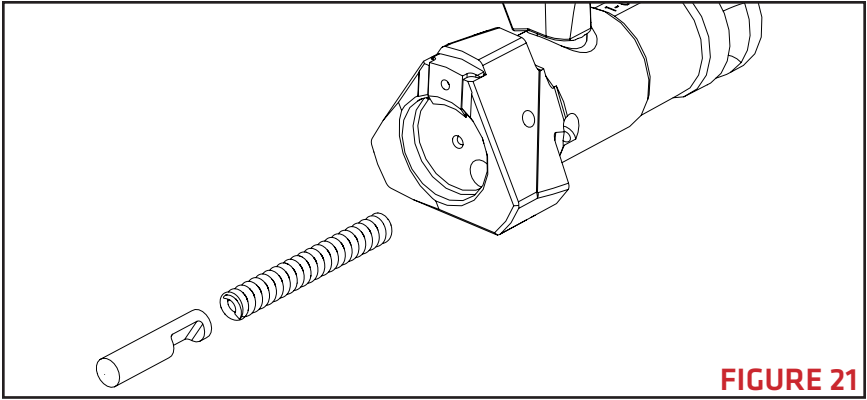

FIGURE 21
2. Hold the bolt face firmly against a flat work surface and slowly remove the 3/32 punch from the ejector pin hole. The ejector and ejector spring will escape from the bolt after the punch is retracted from the ejector pin hole. Lift the bolt from the work surface and remove the ejector and ejector spring (**FIGURE 21**).
3. To install the ejector, ensure the extractor is installed and insert the ejector spring and ejector into the bolt. Orient the ejector so that the ejector's pin slot is facing away from the bolt (**FIGURE 21**).